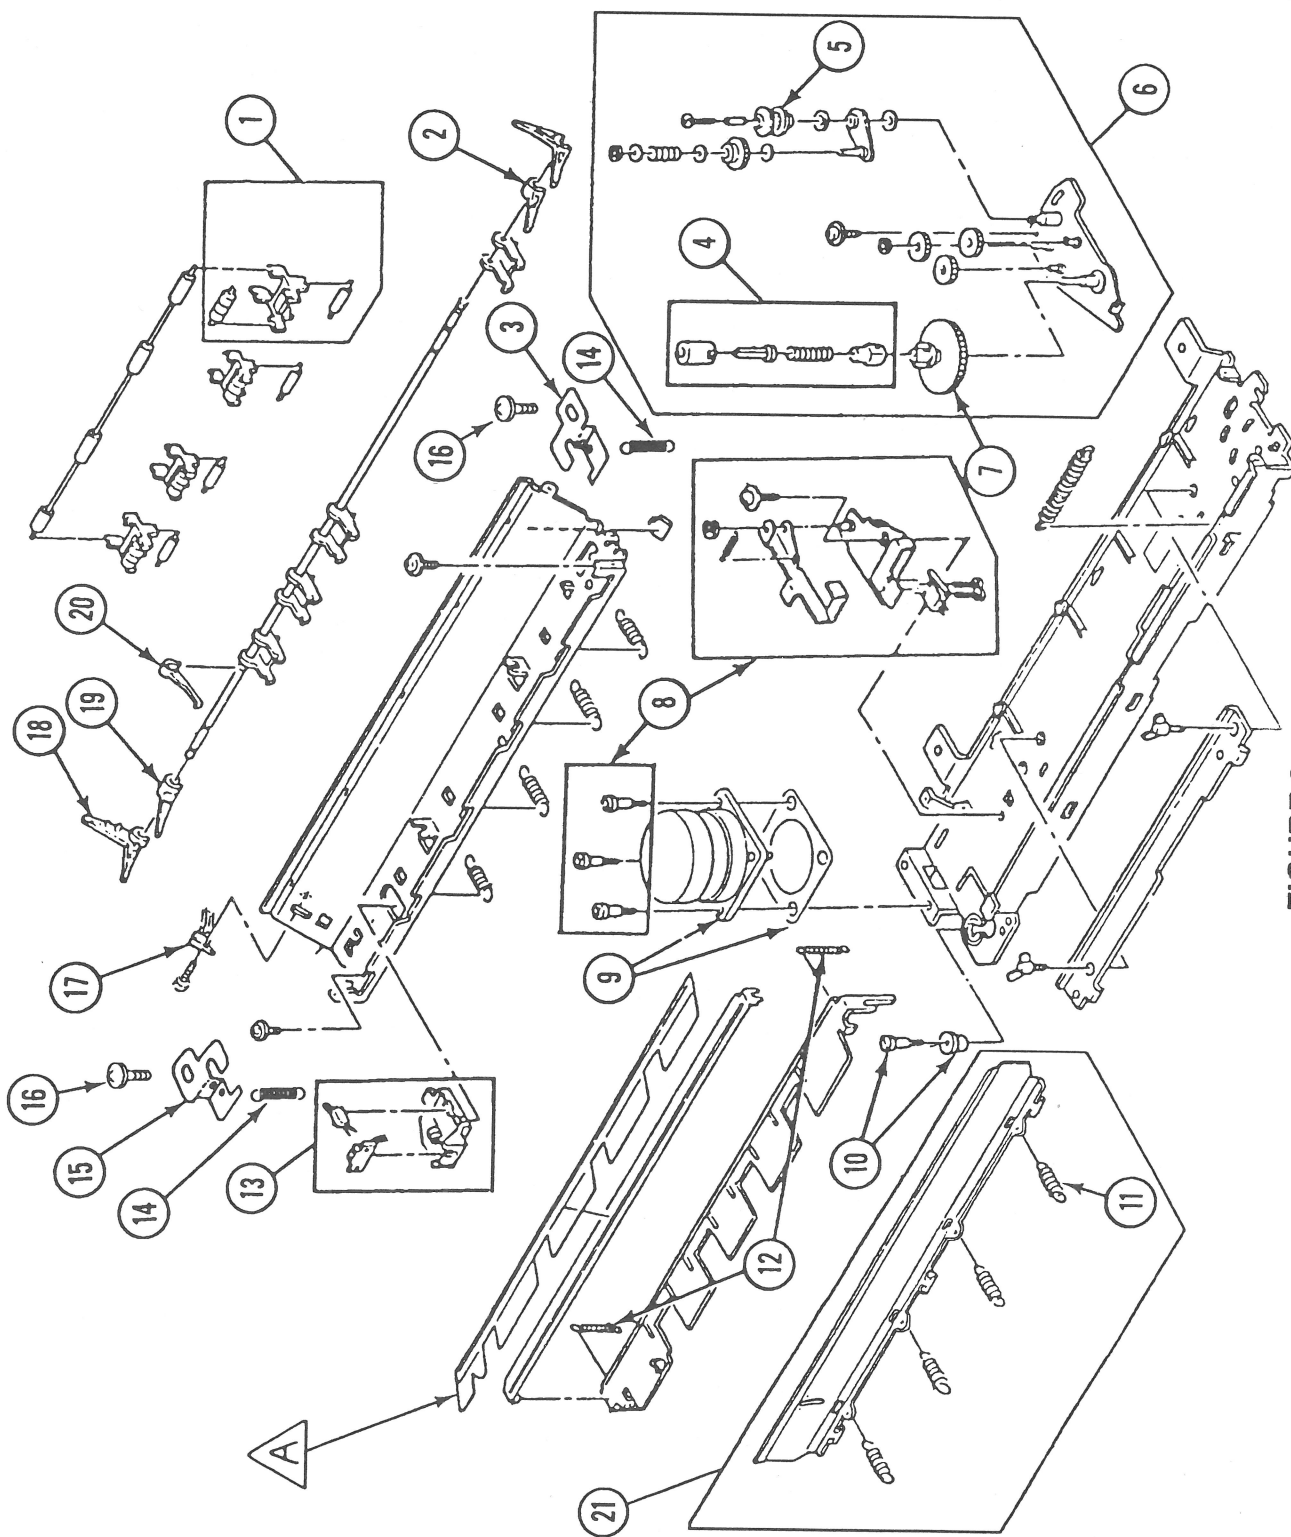

FIGURE 6
□ MAIN FRAME ASSEMBLY (Figure 6)